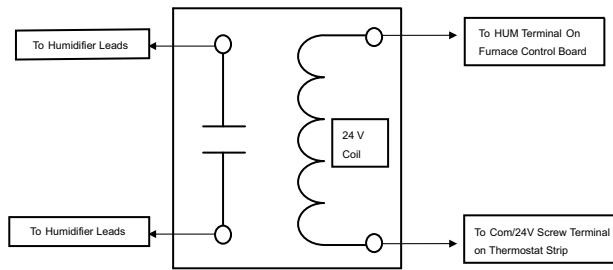
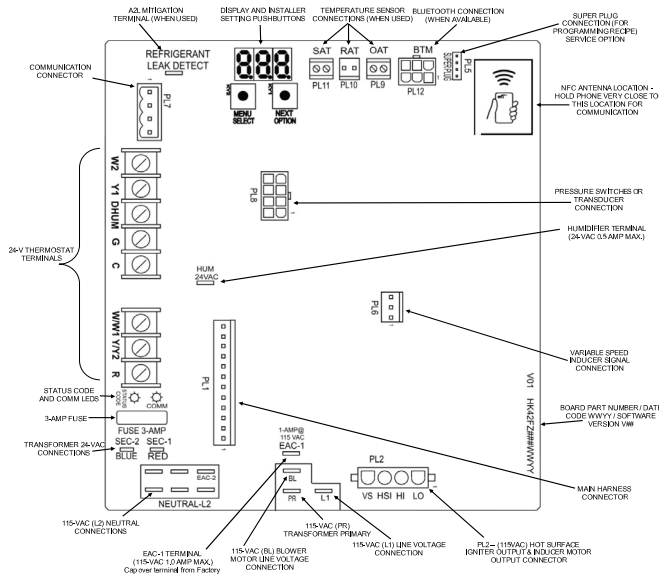

Fig. 37 – Field-supplied Isolation Relay for Humidifiers with Internal Power Supply
Fig. 38 – Example of Modulating Furnace Control
Make field 24-V connections at the 24-V terminal strip, see Fig. 38. Connect terminal Y/Y2 as shown in Fig. 33 for proper cooling operation. Use only AWG No. 18, color-coded, copper thermostat wire.
The 24-V circuit contains an automotive-type, 3-amp. fuse located on the control. Any direct shorts during installation, service, or maintenance could cause this fuse to blow. If fuse replacement is required, use ONLY a 3-amp. fuse of identical size, see Fig. 38.
For best results, use a communicating wall control to control this modulating furnace. A single stage or two-stage heating and cooling thermostat can be used with the furnace. The furnace control board CPU will control the furnace and outdoor unit staging. A two stage heating and cooling thermostat can also be used to control the staging. However, full modulating capability will not be available when the furnace staging is controlled by the thermostat. Furnace staging will be limited to Minimum and Maximum inputs or Intermediate and Maximum inputs depending on the thermostat type selected in (HtE). For two stage thermostat control of a 2-stage outdoor unit, navigate to (EtE) and select (25E). Refer to typical thermostat wiring diagrams and the Sequence of Operation section for additional details. Consult the thermostat installation instructions for specific information about configuring the thermostat, see Fig. 38.
ACCESSORIES (See Fig. 38 and Fig. 37.)
- NOTE:** If the humidifier has its own 24 VAC power supply, an isolation relay may be required. Connect the 24 VAC coil of the isolation relay to the HUM and COM/24-V screw terminal on the control board thermostat strip, see Fig. 37.
This connection is used when the furnace is controlled by an optional communicating User Interface instead of a standard thermostat. The communication plug is supplied with the User Interface. Refer to the instructions supplied with the User Interface for complete details, see Fig. 38.